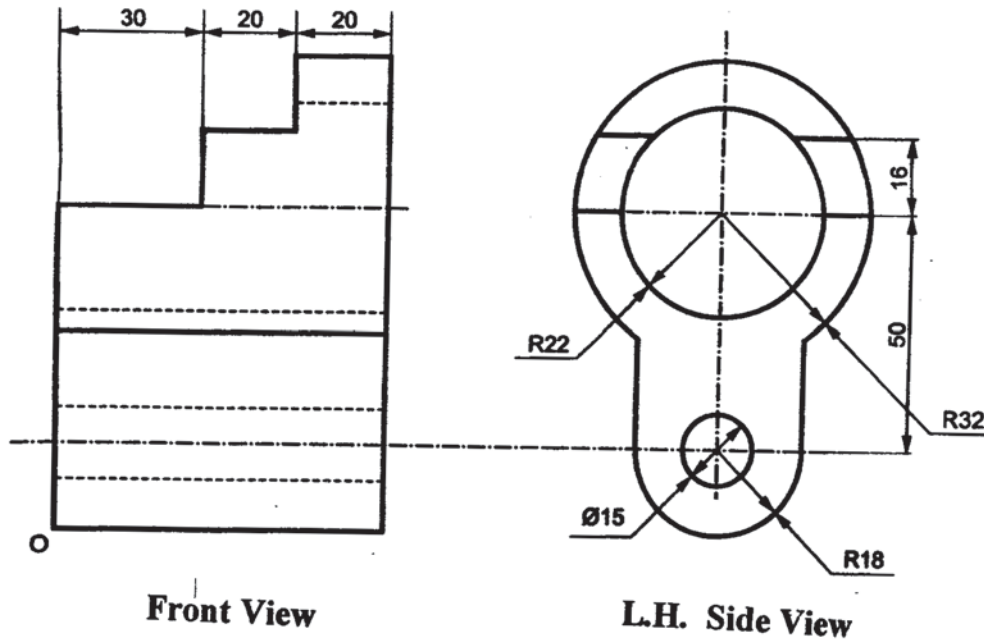

Fig. 6
8. Fig. 6 shows Orthographic Views of an object by First Angle Method of Projection. Draw its isometric view taking origin at 'O' and give overall dimensions. (17+3)